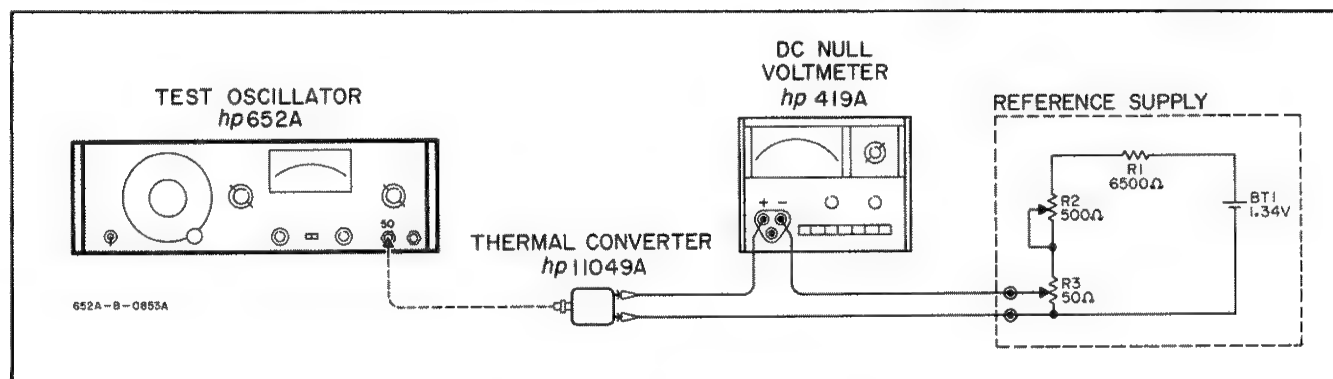

Figure 5-3. Flatness Tests.
- a. Connect equipment as shown in Figure 5-3. (Use a thermal converter with a known change in output for a given change at the input. If this information is not readily available, then Table 5-3 gives this information for a typical thermal converter connected as in Figure 5-3). Set both 652A output and reference supply to minimum before connecting. Thermal converter must be connected directly to 50 ohm output of 652A.